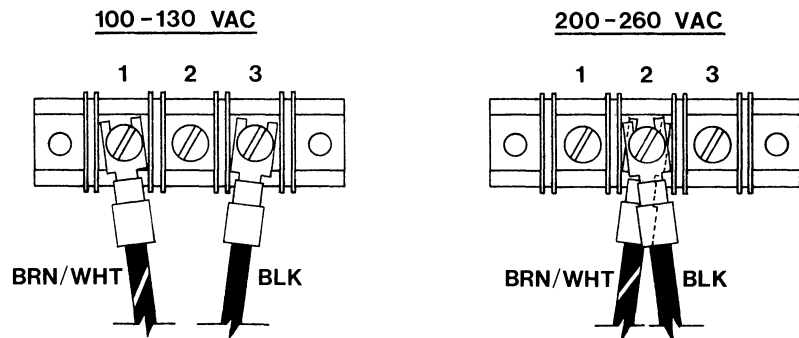

Figure 3-14 The Mains Voltage Selector Block
hand tools. Refer to Figures 3-14 and 3-15. The procedure is as follows:
- 4) Wire the terminal block as shown in Figure 3-14.